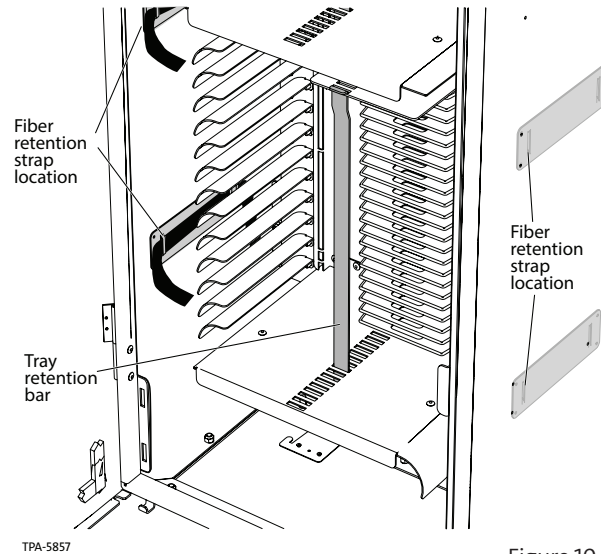

Figure 10
- Step 6:** Once all splice trays are installed into the stacker, slide the security bar into the slot closest to the splice trays to secure the trays in the stacker (Figure 10).